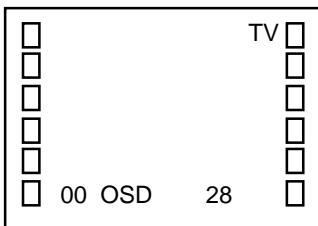

Fig. 1-1
1. In the condition of NO indication on the screen. Press the VOL. DOWN button on the set and the Channel button (9) on the remote control for more than 1 second to appear the adjustment mode on the screen as shown in Fig. 1-1.
3. Activate the adjustment mode display of Fig. 1-1 and press the channel button (01) on the remote control to select "CUT OFF".
4. Activate the adjustment mode display of Fig. 1-1 and press the channel button (10) on the remote control to select "R. BIAS".
3. Activate the adjustment mode display of Fig. 1-1 and press the channel button (05) on the remote control to select "H. PHAS".
3. Activate the adjustment mode display of Fig. 1-1 and press the channel button (07) on the remote control to select "V. SFT".
3. Activate the adjustment mode display of **Fig. 1-1** and press the channel button **(06)** on the remote control to select "V. SIZE".